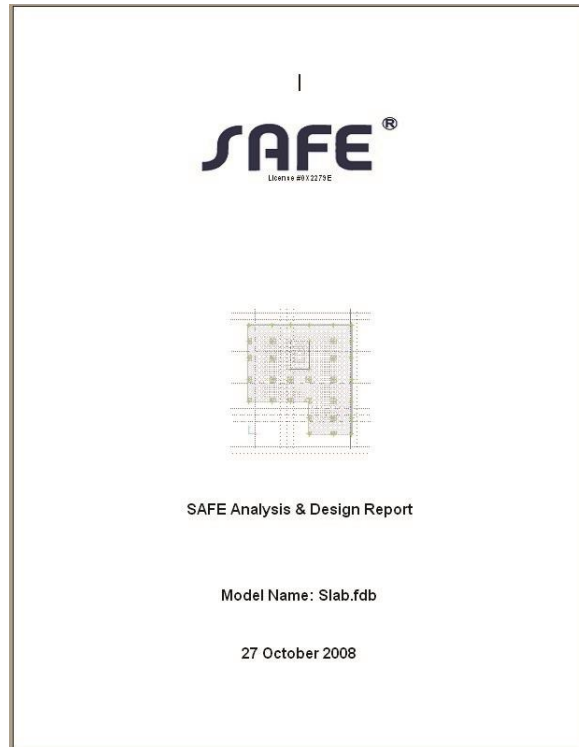

Figure 48 Cover Page for Report
- F. Type **Slab** in the File name edit box and click the **Save** button. A report, with a cover similar to that shown in Figure 48 should be displayed in your word processor, and will be saved to your hard disk.